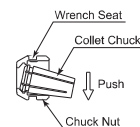

Fig. 5
- The collet chuck and chuck nut are secured by a groove in the collet chuck and a flange in the chuck nut. To remove the collet chuck hold the chuck nut in one hand and push diagonally down on the collet chuck. The collet chuck should be released. (Fig. 5)
- To install the collet chuck, hold the collet chuck at a slight angle, and insert it into the chuck nut. (Fig. 6) Press the collet chuck in the chuck nut by positioning the collet chuck in the chuck nut and pressing down on flat surface (Fig. 5). Be sure to fully engage the latch inside the chuck nut into the groove on the collet chucks outer circumference area. (Fig. 7)